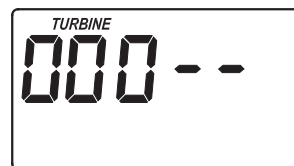

FIG. 25
1. Press and hold the SELECT button until "000 - -" shows in the display (See Figure 25).